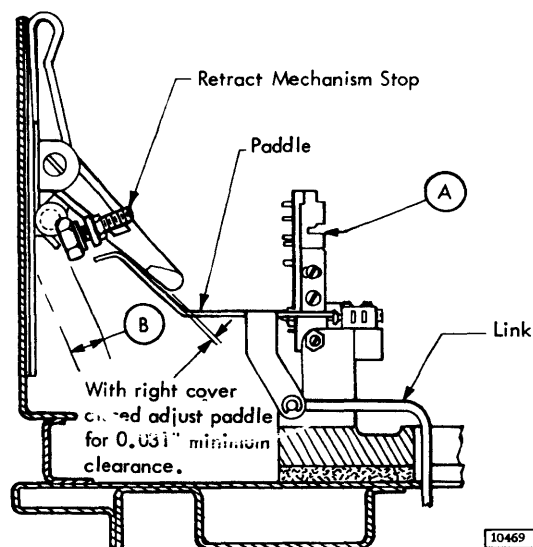

Figure 4-26. Sector Block Retract Mechanism Adjustment
1. With the right cover closed and the left cover open, adjust the paddle (Figure 4-26) to obtain 0.031" minimum clearance between the paddle and the retract roller.